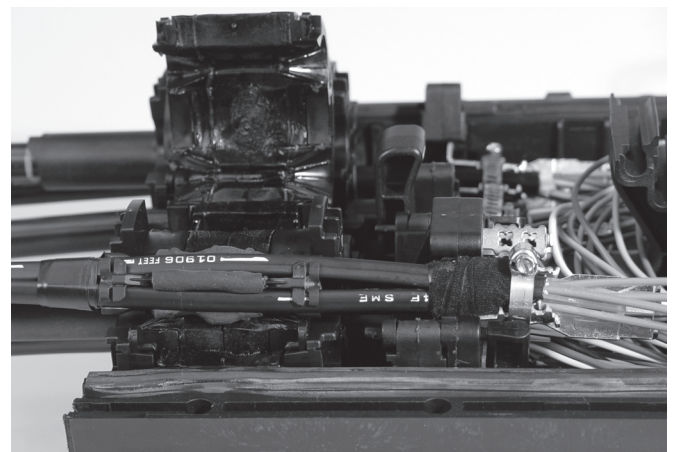

Figure 13
11. Install the hose clamp over the retention clips. Tighten the hose clamp such that retention bracket teeth seat fully into the black felt wrap. (Figure 13)